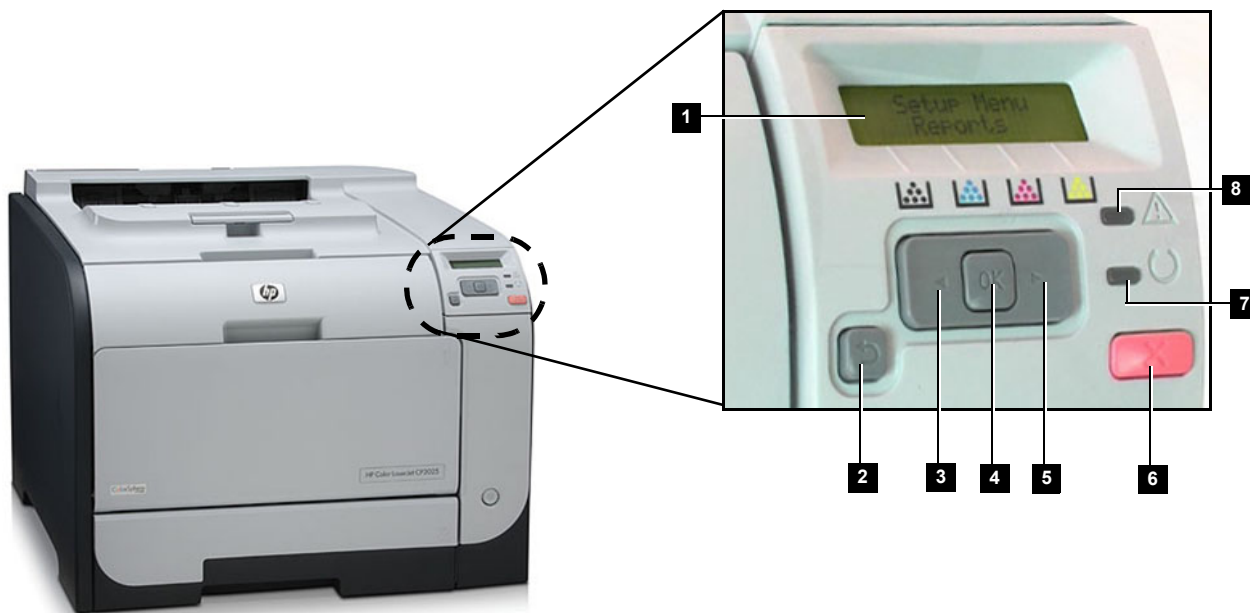

Figure 3-22 Printer Control Panel
The settings for the HP Laserjet M451 Color printer are controlled via the printer's control panel located as shown in Figure 3-22.
Table 3-14 Printer Control Panel - Legend to Figure 3-22
- 1.) On the printer's control panel, press **OK** (button 4) in Figure 3-22.